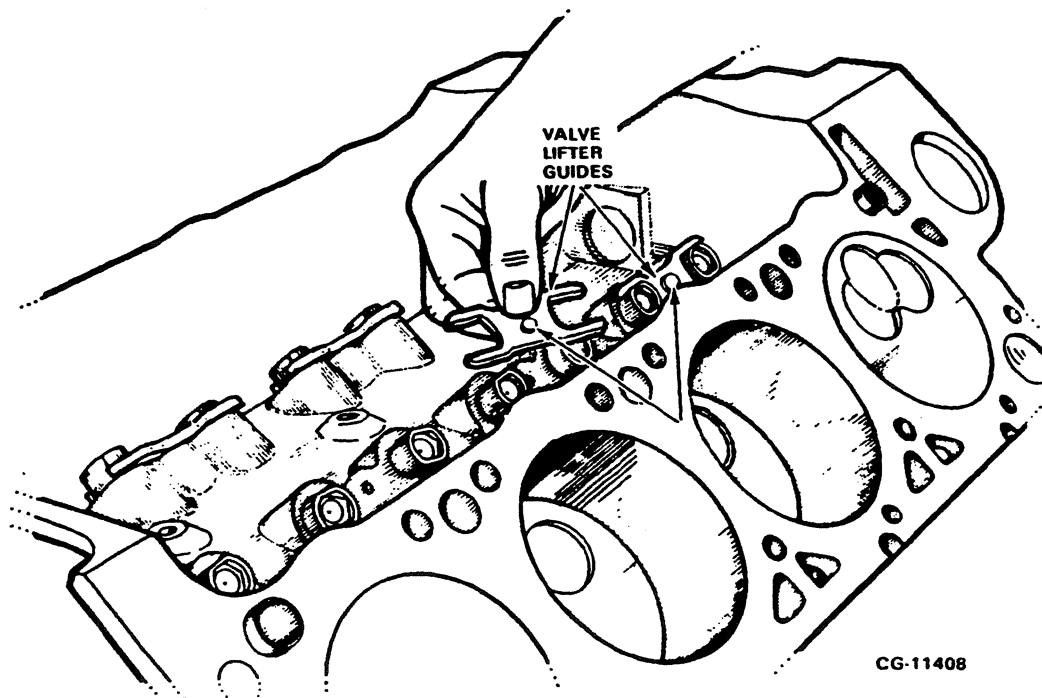

Figure 4.24. Hydraulic Valve Lifter Guide Installation
**INSTALL VALVE LIFTER GUIDES WITH RAISED BUMP UP. REFER TO FIGURE 4.24.**